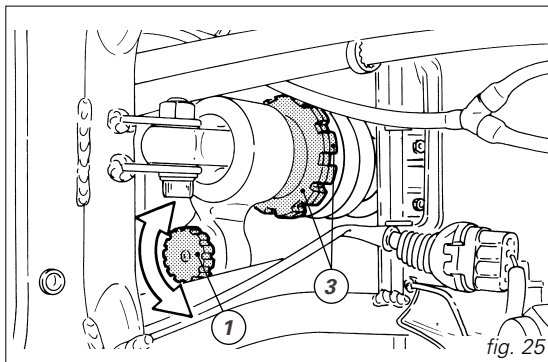

fig. 25
The adjuster (1, fig. 25) on the shock absorber expansion reservoir - LH side of the frame - controls compression damping.
Two ring nuts (3, fig. 25) located on the top section of the shock absorber are used to adjust the outer spring preload.
- Compression damping adjuster (1, fig. 25): 18 clicks.
- Compression damping adjuster (1, fig. 25): 25 clicks.